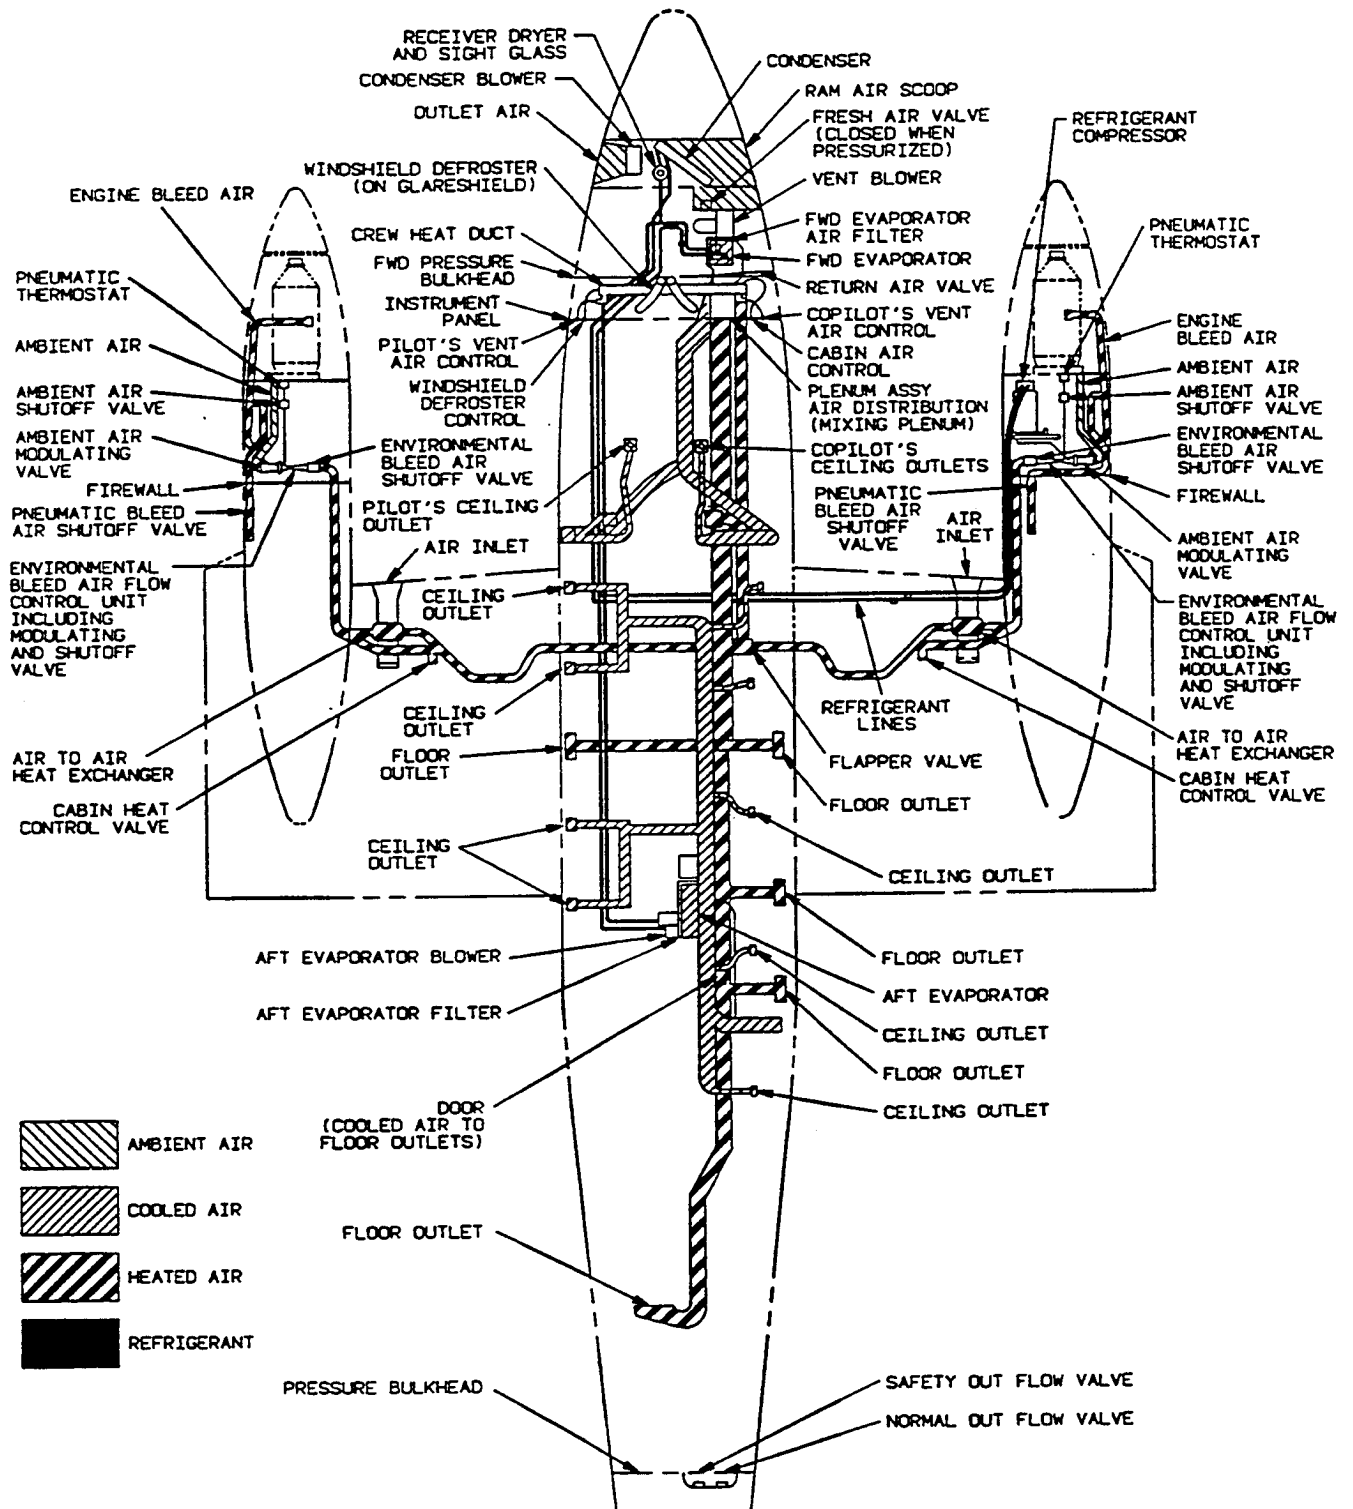

Figure 2-26. Environmental System
Warm air for heating the cockpit and cabin and for defrosting the windshield is provided by bleed air from both engines. Engine bleed air is combined with ambient air in the heating and pressurization flow control unit in each engine nacelle. If the mixed bleed air is too warm for cockpit comfort, it is cooled by being routed through an air-to-air heat exchanger located in the forward portion of each inboard wing. If the mixed bleed air is not too warm, the air-to-air heat exchangers are bypassed. The mixed bleed air is then ducted to a mixing plenum, where it is mixed with cabin re-circulated air. The warm air is then ducted to the cockpit outlets, windshield defroster outlets, and floor outlets in the cabin compartment. The environmental system is shown in Figure 2-26.
a. Description. Cabin air conditioning is provided by a refrigerant-gas, vapor-cycle refrigeration system, Figure 2-26. The system consists of a belt-driven engine-mounted compressor, installed on the #2 engine accessory section, refrigerant plumbing, N₁ speed switch, high and low pressure protection